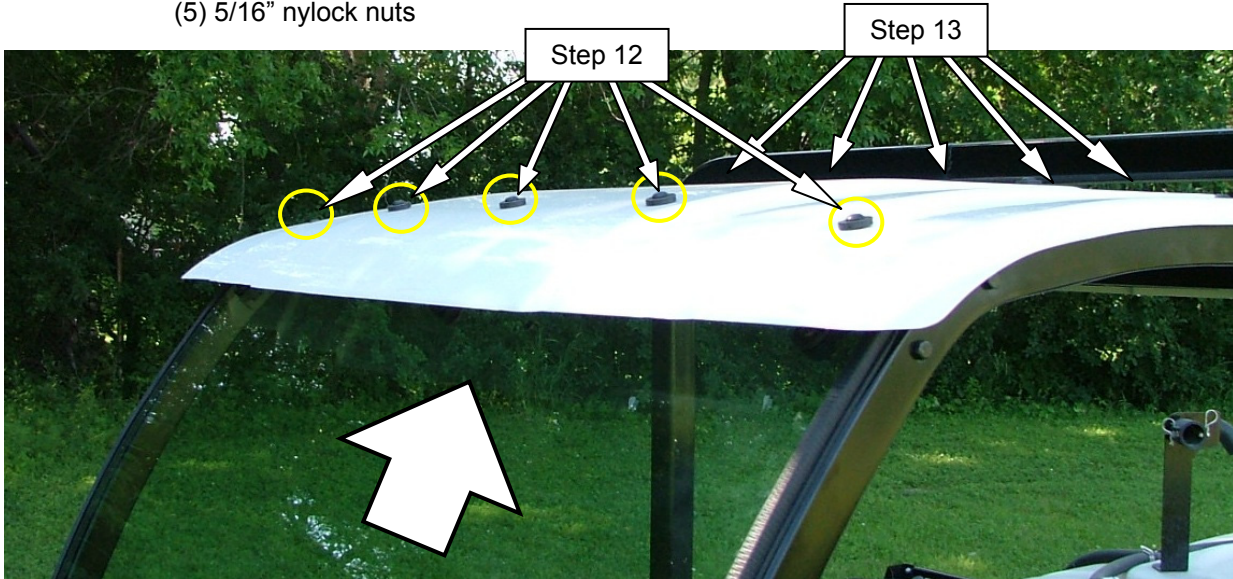

Figure 5
12. Align front holes of white roof panel with front cross member holes (**Figures 5 & 6**). Secure using;
- (5) 5/16" nylock nuts
13. Align rear holes of white roof panel with rear cross member holes (**Figures 5 & 6**). Secure using;